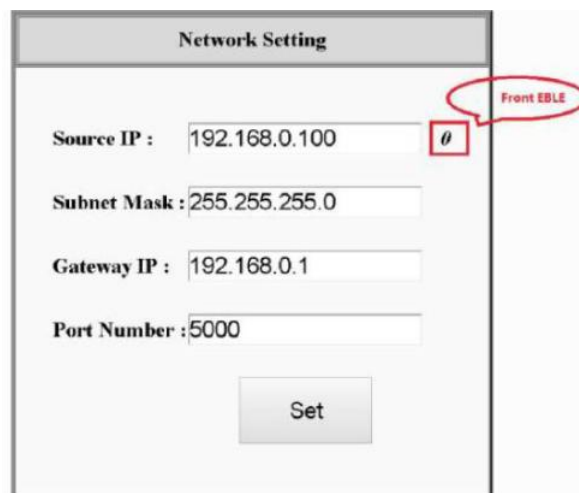

Figure 21 Front Projector Network Setting
- i. Network Setting dialog box will be displayed as below Figure 21.